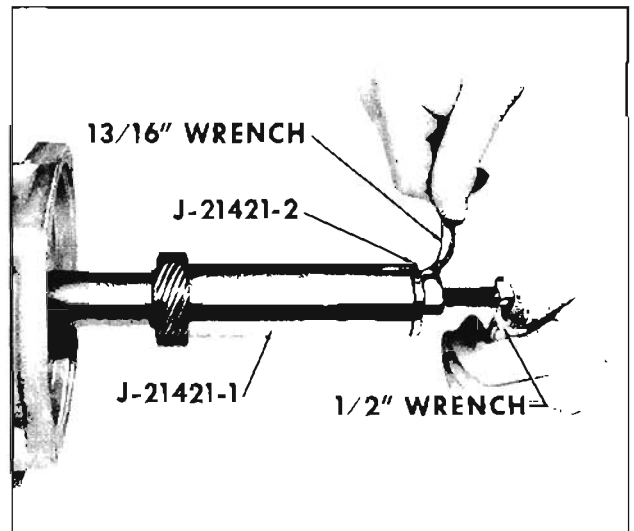

Fig. 6-450 Installing Speedometer Drive Gear
1. With transmission in a horizontal position, position speedometer driving gear. Place transmission in "P" range. Using Tools J-21421-1 and J-21421-2, drive speedometer driving worm gear onto output shaft. Drive gear on until J-21421-2 bottoms on end of output shaft. When tool bottoms, speedometer driving gear is in proper location. (Fig. 6-450)